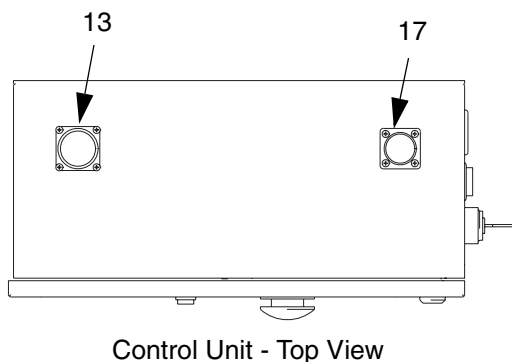

FIG. 10
1. Locate the receptacle on the top of the control assembly. See FIG. 10.
2. Connect the cable assembly to the automation I/O receptacle in FIG. 10.
For information about specific control assembly circuitry and connections, read the chart on this page and see the Wiring Diagrams beginning on page 69 and FIG. 10.